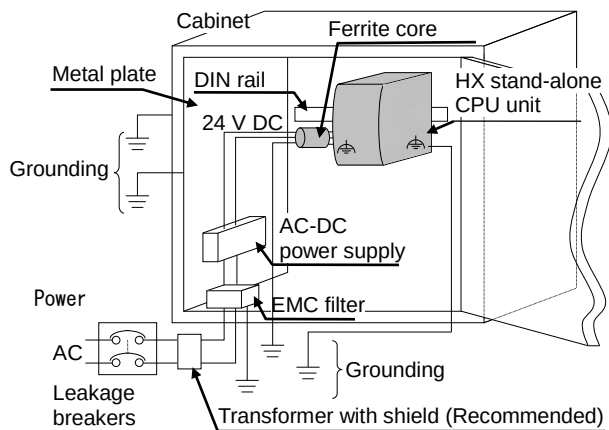

Figure 4 Wiring power diagram
- Wire the power supply according to Figure 4.
- If HX is applied for CE marking (EMC direction), follow the instructions below according to Figure 4 and 5.
- (1) Install EMC filter specified in Table 1.
- (2) Use the isolation AC-DC power supply that is conformed CE marking.
- (3) Use included ferrite core for power cable with 2 turns.